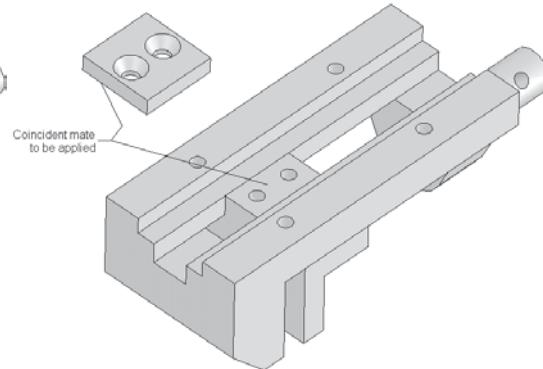

Figure 11-70 Faces to be selected to apply mate
5. Move the Clamping Plate by dragging. Now, apply the **Coincident** mate between the faces of the Clamping Plate and the Vice Jaw, as shown in Figure 11-70.